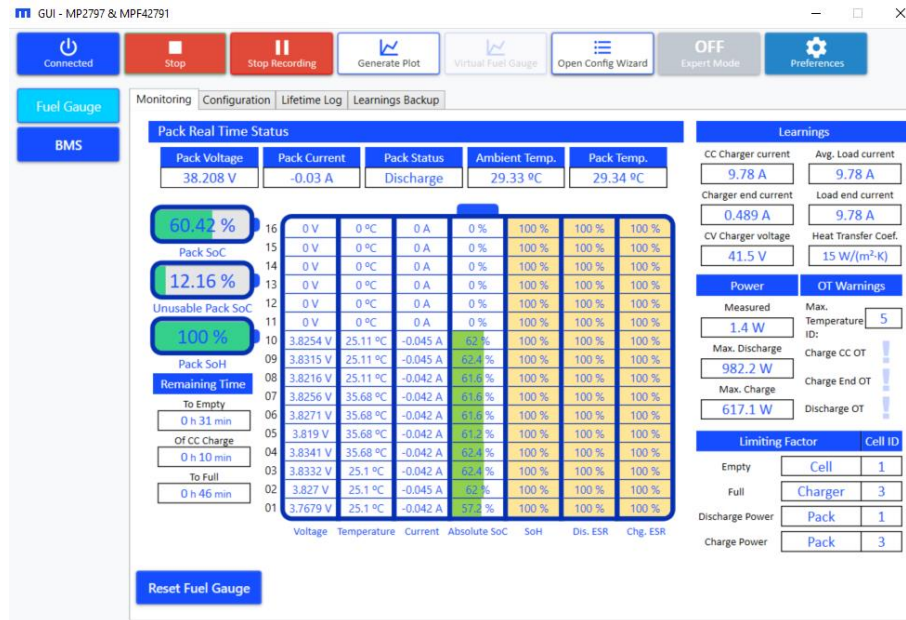

Figure 52: Recording
1. While the GUI reads the monitoring registers, the "Record" button is enabled (see Figure 52).
3. Click "Stop Recording" to stop logging into the .csv file (see Figure 52).